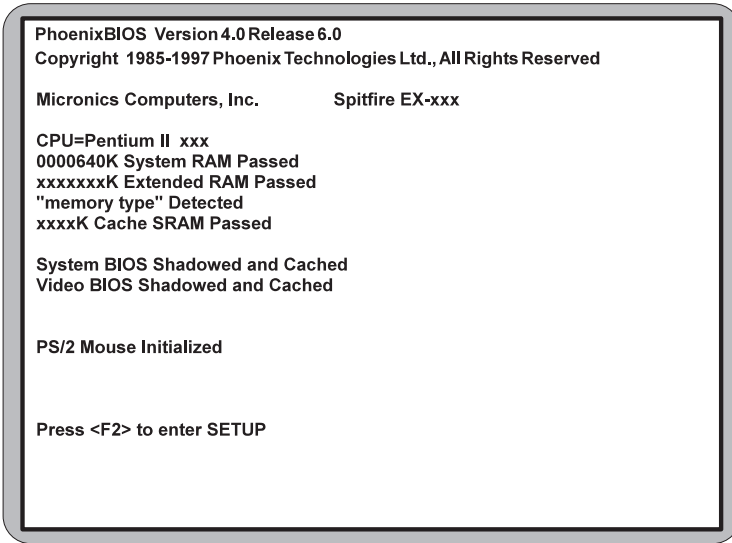

Figure 1.1: Power-Up Screen
9. Turn the computer on and press the <F2> key when you see the screen shown in Figure 1.1.